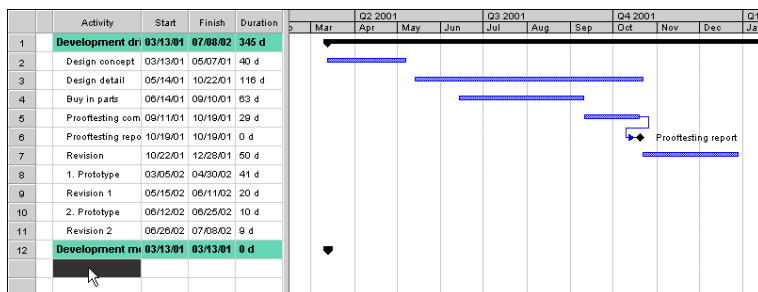

Figure 31: Highlighting the insertion point
3. Highlight the activity above which you want to insert the copied rows (Figure 31).